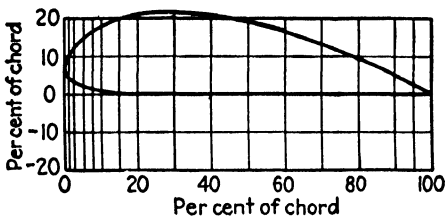

Fig. 201.—Airfoil section: Clark Y-22.
2. Construct a table of data in inches for the nosepiece (0–15 per cent) of the airfoil shown in Fig. 201, based on a 6-ft. chord.
3. What is the thickness in inches at each station of a Clark Y-22 airfoil (Fig. 201) using a 10-ft. chord?